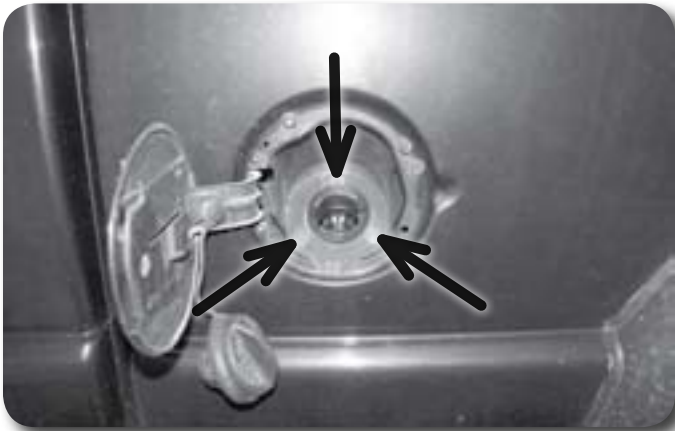

Figure 23
26. Remove the fuel filler cap to access the three screws mounting the filler neck to the plastic body shroud **Figure 23**. Remove the three screws to allow the filler neck to fall through the shroud while lifting the bed. Save screws.